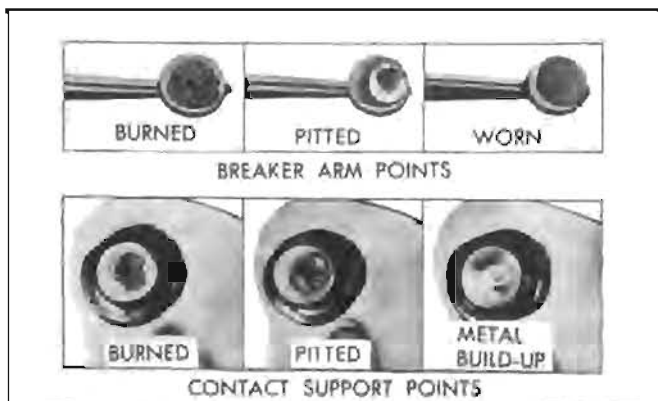

Figure 10-61—New and Worn Out Contact Points
4. Excessively burned, pitted or worn contact points cannot be cleaned up and aligned satisfactorily; therefore, they must be replaced to insure satisfactory ignition. See figure 10-61. See paragraph 10-46 for replacement of contact points.